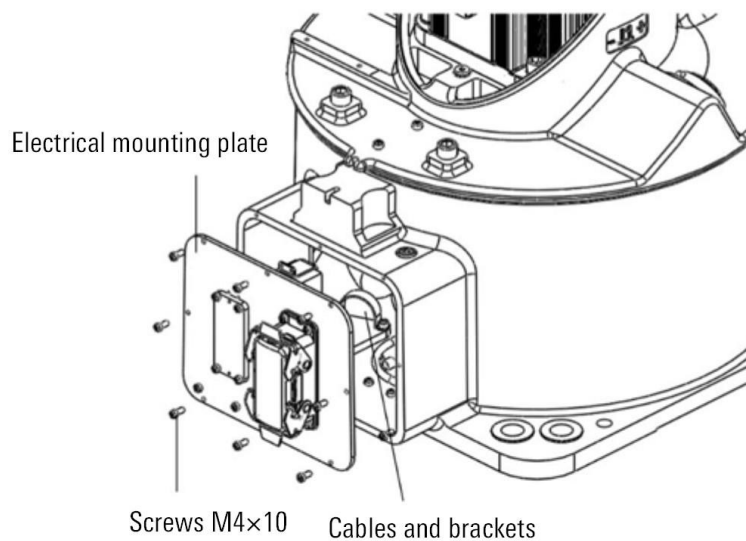

Figure 12-2 Internal cables of the base
- Step1. Remove the electrical installation plate, as shown in Figure 12-2, and pull out the cables inside the base.
- Step8. Install the cable into the base in the direction shown in Figure 12-2, forming a "U" shape inside the base.